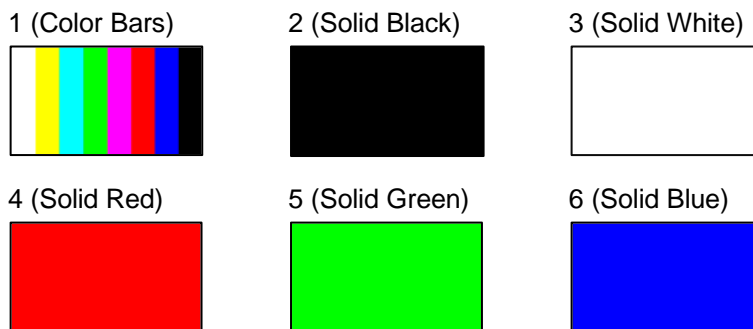

Figure 6: VS-88H2A Embedded Patterns
3. Press an input button to select a pattern (see Figure 6).